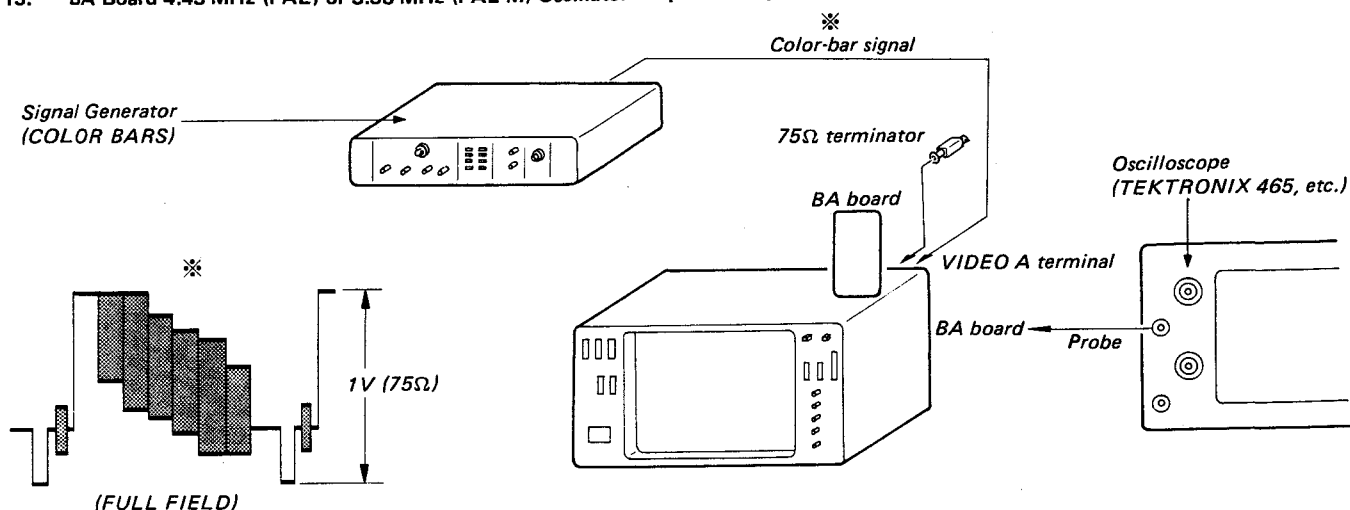

Fig. 5-80.
1. Complete the connections as shown in Fig. 5-80.